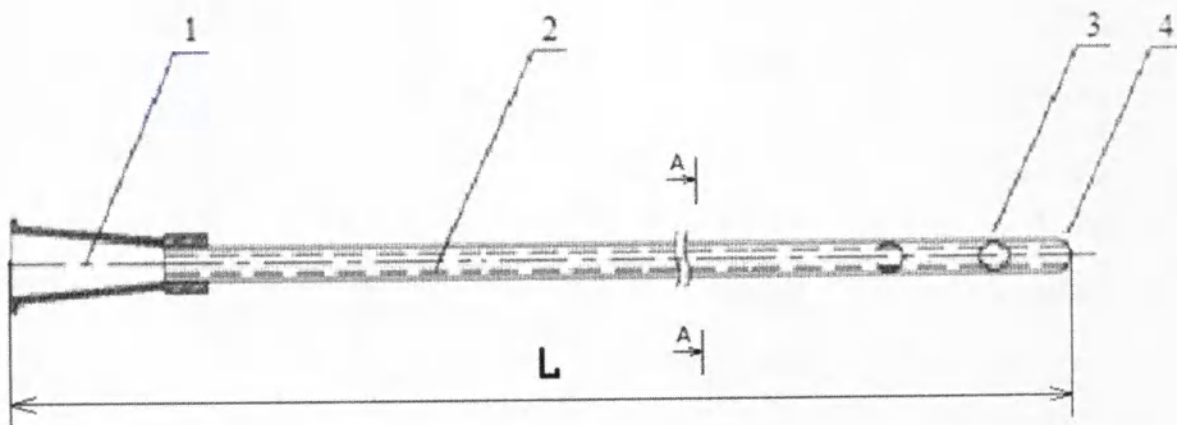
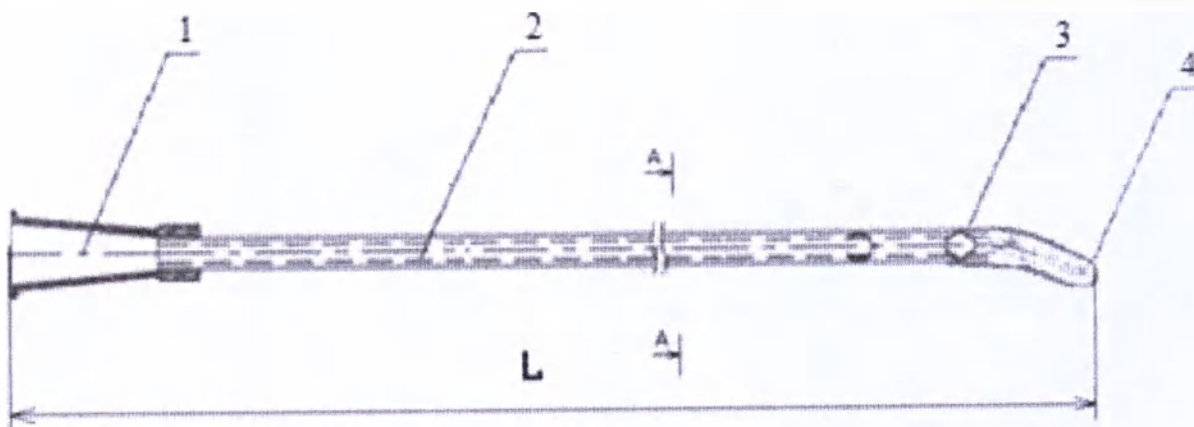

Figure 2.1 – Nelaton catheter with cylindrical distal tip
Figure 2.2 – Nelaton catheter with Tiemann distal tip
The Product size range has a color marking of the drainage connector (item 1 in Figures 2.1 and 2.2), in accordance with Table 2.2.
Figures 2.1-2.3 show dimensions and design features of the Product versions, regardless of the material and the presence of a hydrophilic coating: with a cylindrical distal tip – in Figure 2.1, with a Tiemann distal tip – in Figure 2.2.